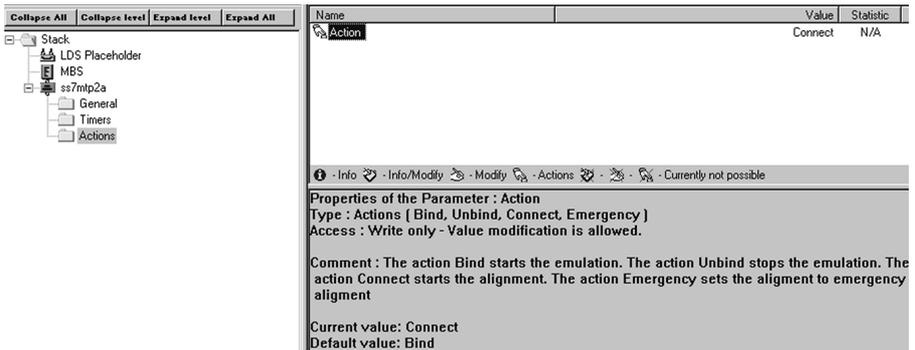

Figure 7: Starting the emulation using the *Connect* action
- b. Start the MTP layer 2 emulation of the Test Center branch by selecting *Connect* in the *Actions* menu (see figure 7).